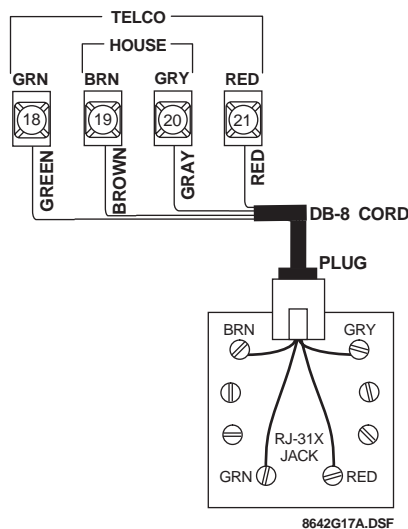

Figure 18. Connecting the DB-8 Cord to the Panel and RJ-31X Jack
1. Connect the green, brown, gray, and red flying leads from the DB-8 cord to panel terminals 18, 19, 20, and 21 (see Figure 18).
2. Insert the DB-8 cord's plug into the RJ-31X (see Figure 18).